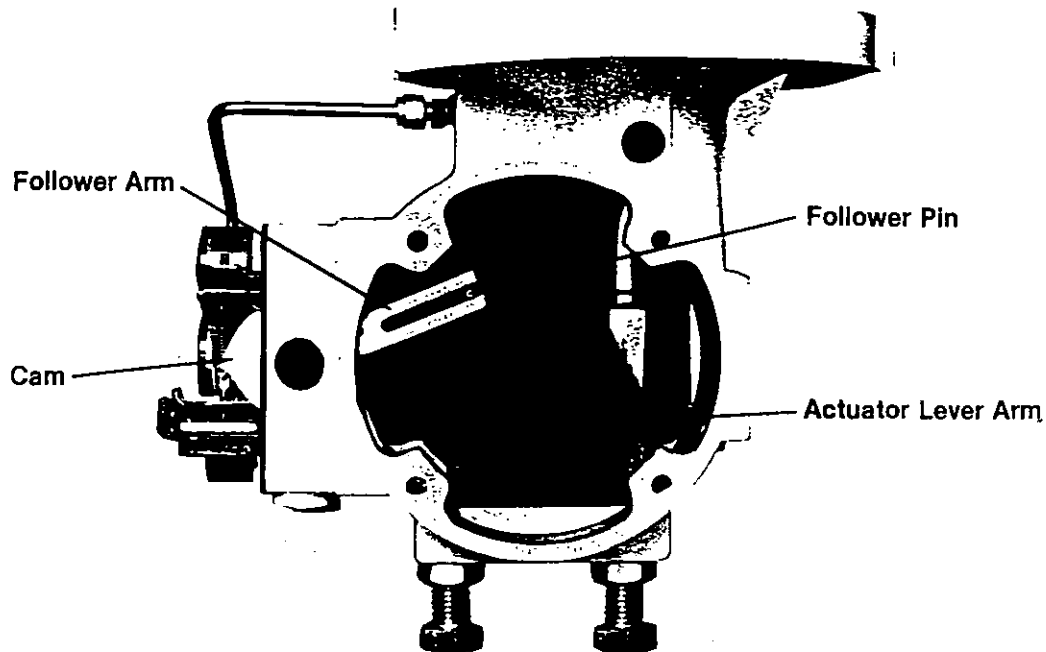

Figure 7: Beta Positioner Installation on Rotary Actuator
(1) Letters are the markings stamped on either side of the cam.
7. Insert the follower pin into the hole in the actuator lever arm and drive it firmly into place with a hammer (see Figure 7).
8. Apply grease to the sliding surfaces of the follower arm (58) before mounting the positioner to the transfer case. When mounting the positioner to the transfer case, make sure to guide the follower arm so the pin slides in the slot on the follower arm (see Figure 7). Fasten the positioner to the transfer case with the three mounting screws. Push up on the cam to verify that the pin is riding in the follower arm slot or remove the transfer case cover plate to inspect.